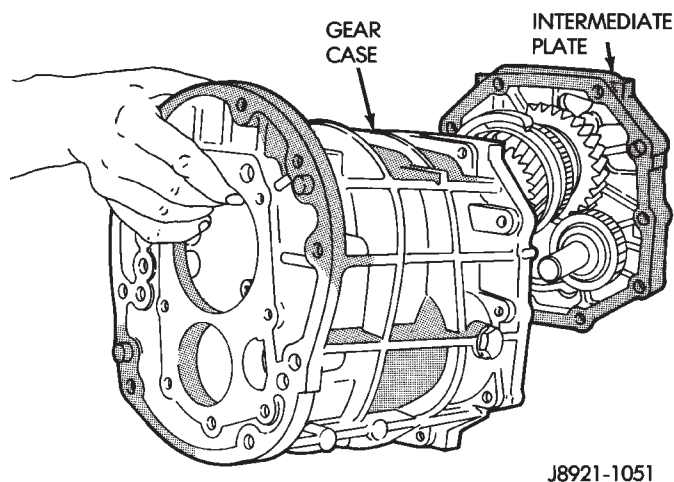

Fig. 35 Remove Intermediate Plate from Transmission Case
(24) Separate the intermediate plate from the transmission case (Fig. 35).